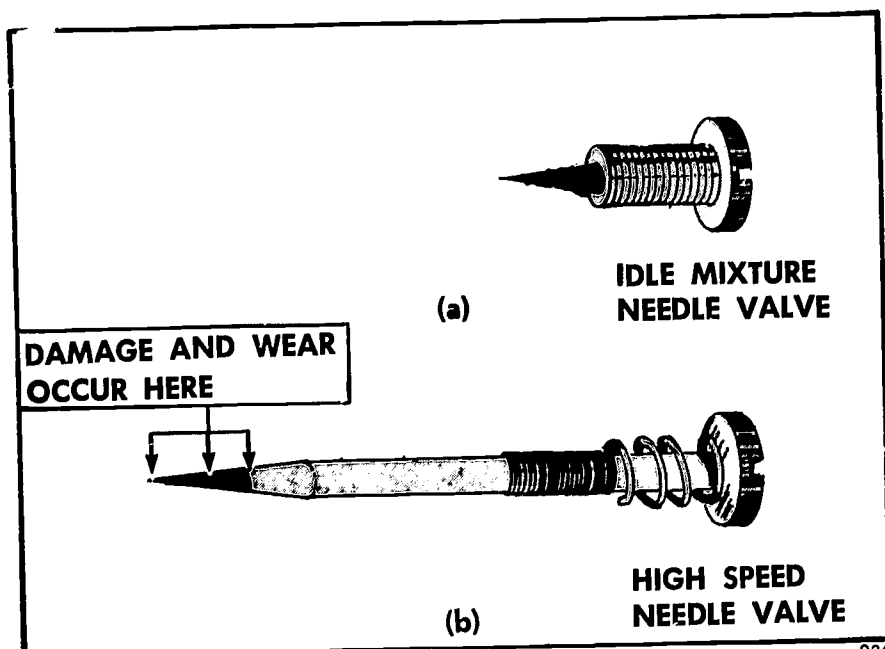

FIGURE 142. Where damage or wear occurs on needle valves.
2. Remove and check the condition of the needle valves (Figure 142).